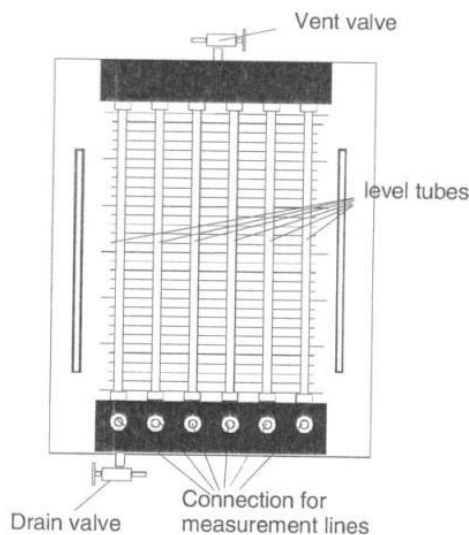

Fig. 2 6-Tube manometer panel
- Control the type of the meter at part (4). Depending on the requirement of the supervisor, assemble, either the orifice meter or the nozzle meter by screwing the terminal nuts, pay attention to the direction of the flow through the meter.
- Connect the up-stream and down-stream taps of the meters to the multi-tube manometer. Note that all level tubes are connected to one another at the top and have a common vent valve. Differential pressure is measured with the vent valve closed, and the gage pressure with the vent valve open. (Fig.2)